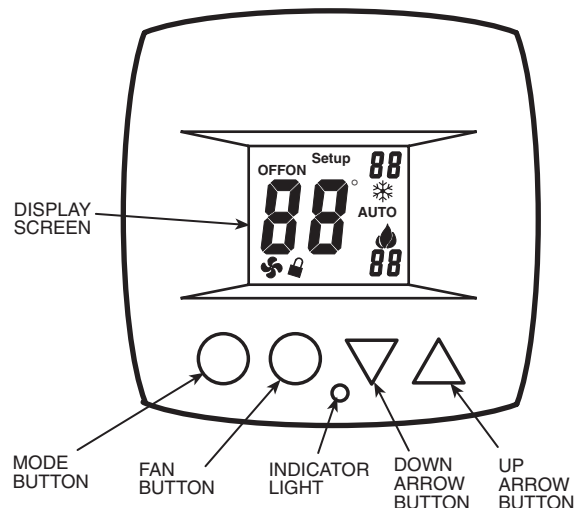

Fig. 2 — Thermostat Front Cover
**Heat or Cool Indicator** — A Heat or Cool indicator is located on the bottom middle cover of the thermostat. See Fig. 2. The light will be red if the thermostat is in Heating mode. The light will be green if the thermostat is in Cooling mode.
**Thermostat Front Panel Buttons** — The thermostat has buttons on the front cover which are used to raise or lower the desired set point and change the current mode. See Fig. 2.